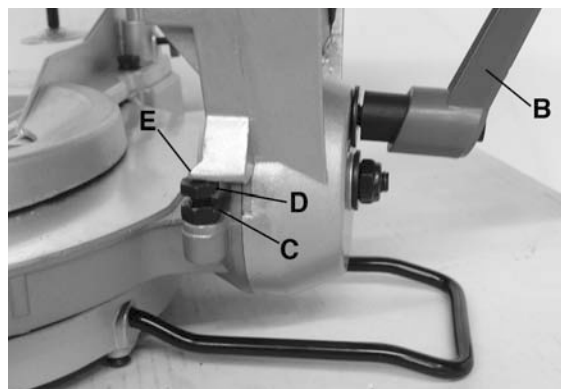

FIGURE 13
4. If an adjustment is necessary, loosen bevel lock handle (B) Fig.13, and tilt cutting arm until the blade is 90 degrees to the table. NOTE: It may be necessary to loosen locknut (C) and bolt (D) to accomplish this. Adjust bolt (D) height until it comes in contact with head (E). Retighten hex. nut (C).